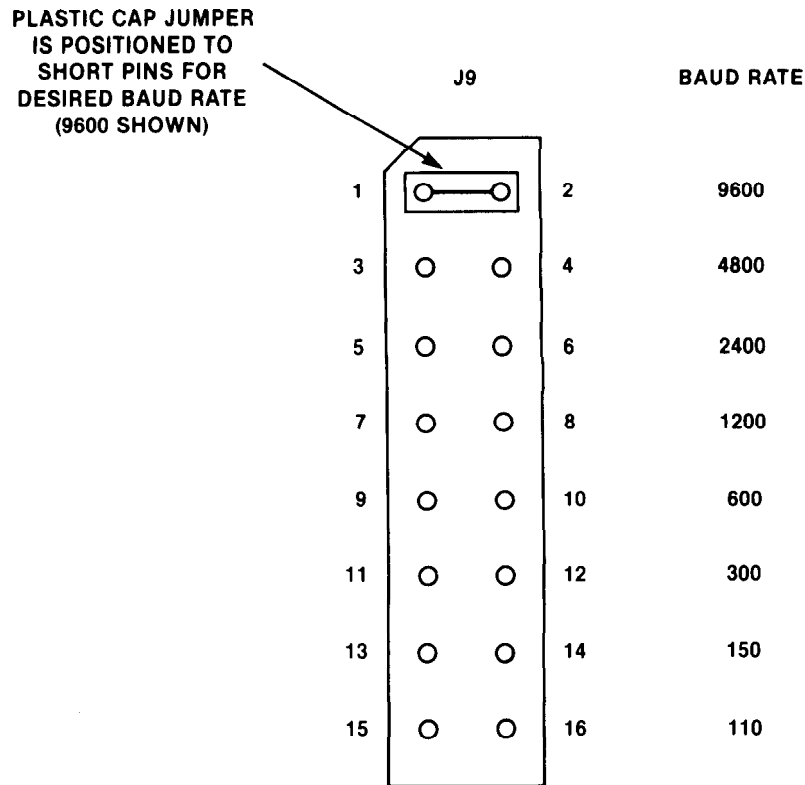

FIGURE 2-12. Host Baud Rate Select Jumper (J9)
2.5.2.1 Selecting Host Baud Rate. As with the terminal baud rate, the host serial port is wired to transmit and receive at the same baud rate. The desired baud rate is selected via a plastic cap jumper positioned on header J9, as shown in Figure 2-12. Also reference Figure 2-4 for the interconnection diagram and Table 2-1 for the selected baud rate.